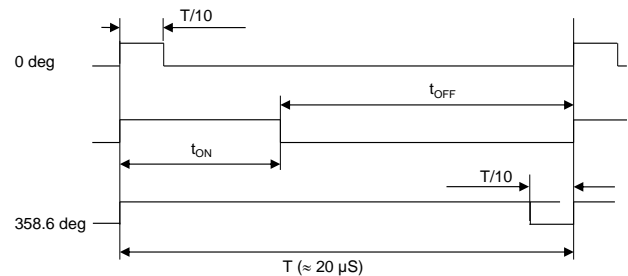

Figure 16: Timing Diagram of the PWM Output
This output provides a logic signal with a duty cycle proportional to the angle of the magnetic field. The PWM frequency is close to 50kHz (the nominal period is 20μs). The duty cycle is bounded by a minimum value (1/10 of the period) and a maximum value (9/10 of the period) (see Figure 16). This means that the duty cycle varies from approximately 10% to 90% with a resolution of eight bits. The angle can be retrieved by measuring the on time. Since the absolute PWM frequency can vary from chip to chip or with the temperature, accurate angle detection requires the measurement of the duty cycle (i.e.: the measurement of both the on time (t_{ON}) and the off time (t_{OFF})). The angle can be calculated with Equation (5):